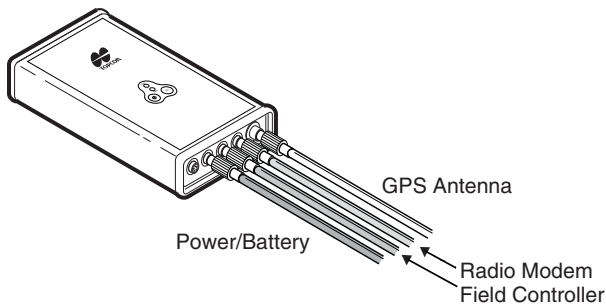

Figure 4-3. PG-A1 Base Station Cable Connections
Step 3: connect component cables to the receiver (Legacy-E+ or HiPer Lite+), then connect the cables to other components (Figure 4-3 on page 4-5).